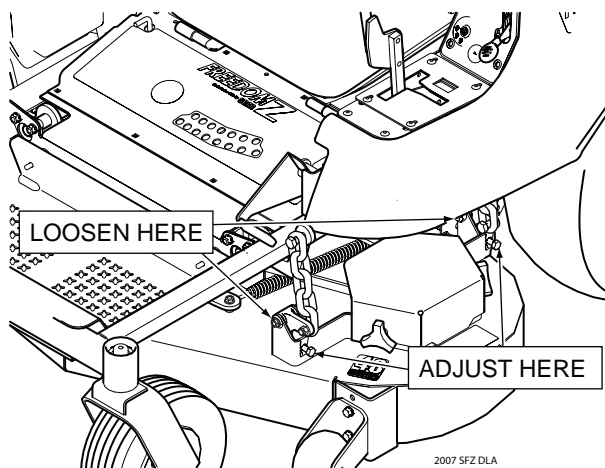

Figure 6-4. Cutter Deck Level Adjustment
1. If the cutter deck is lower on one side, loosen the elastic stop nuts securing the deck level links on the front and rear of the lower side. See Figure 6-4.
2. Turn the adjustment bolts on the front and rear deck level links clockwise until the cutter deck is level between both sides. See Figure 6-4
3. Tighten the two (2) elastic stop nuts to secure the cutter deck in the proper position.
2. Place a 0.015 feeler gauge in the slot between the rotor and the armature. See Figure 6-4.